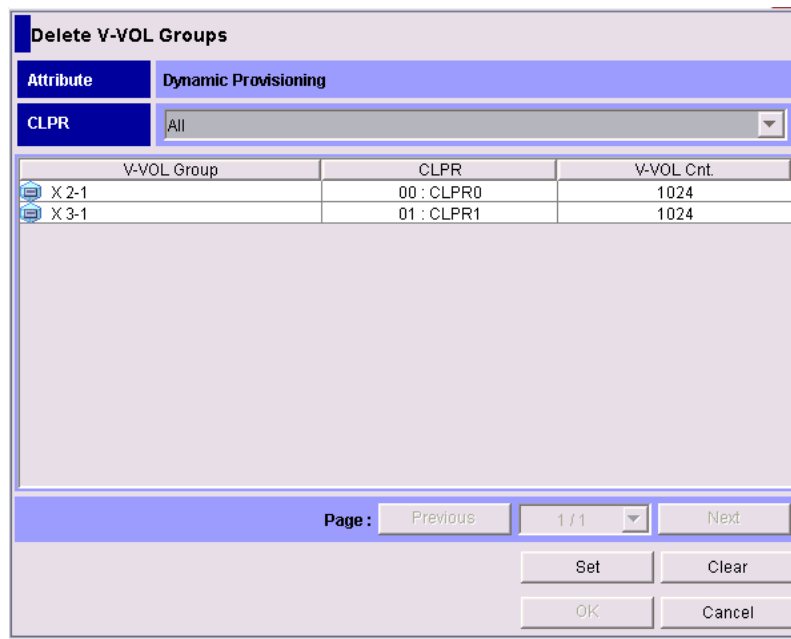

Figure 5-17 Delete V-VOL Groups Dialog Box
2. Right-click **Dynamic Provisioning** in the V-VOL group tree of the V-VOL window, then select **Delete V-VOL Groups**. The Delete V-VOL Groups dialog box (see Figure 5-17) opens. Depending on your environment, it may take approximately 30 seconds to open the Delete V-VOL Groups dialog box.